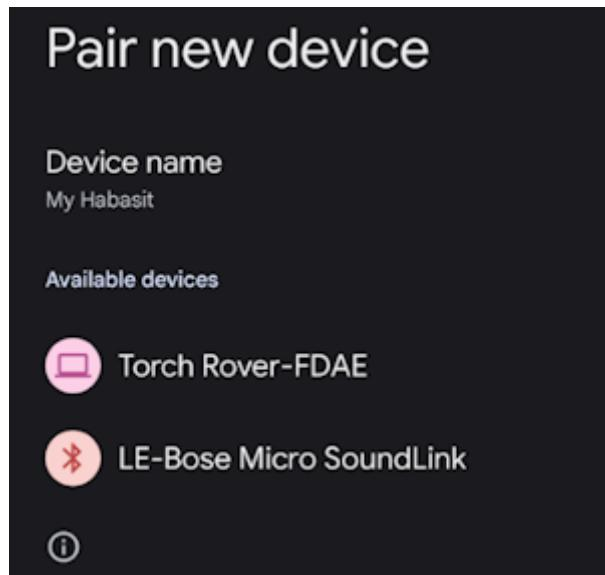

Figure 3
4. From your cell phone, open Bluetooth settings and pair it with a new device. You will see a list of available Bluetooth devices. Select the 'EVK Rover-3AF1'. The '3AF1' is the last four digits of the device's MAC address and will vary depending on the device (Figure 3).